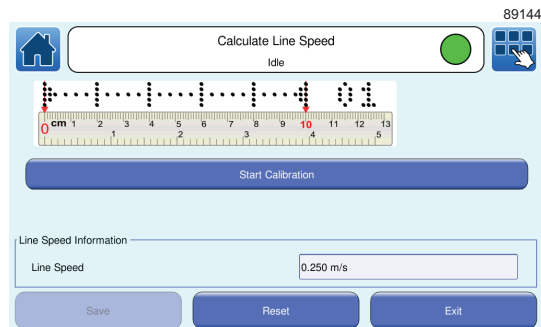

Figure 46. Calculate Line Speed: Start Calibration screen
- 6 Measure the length of the printed calibration message. This value is the distance between the outer edges of the end arrows, shown by the red dots in Figure 46 on page 51. For reference, when the length of the calibration message is 100 mm (plus or minus 1 mm), the line speed is accurate.